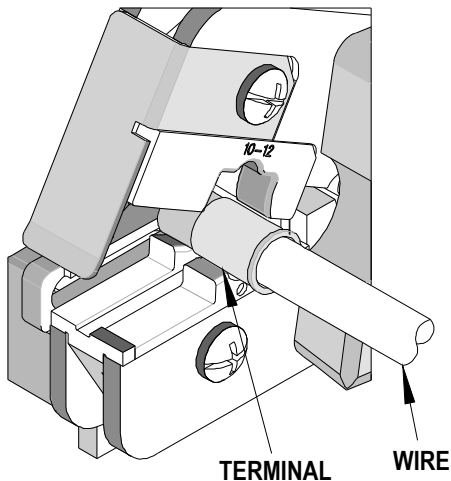

Figure 2
2. Insert the properly stripped wire into the terminal barrel. See Figure 2.